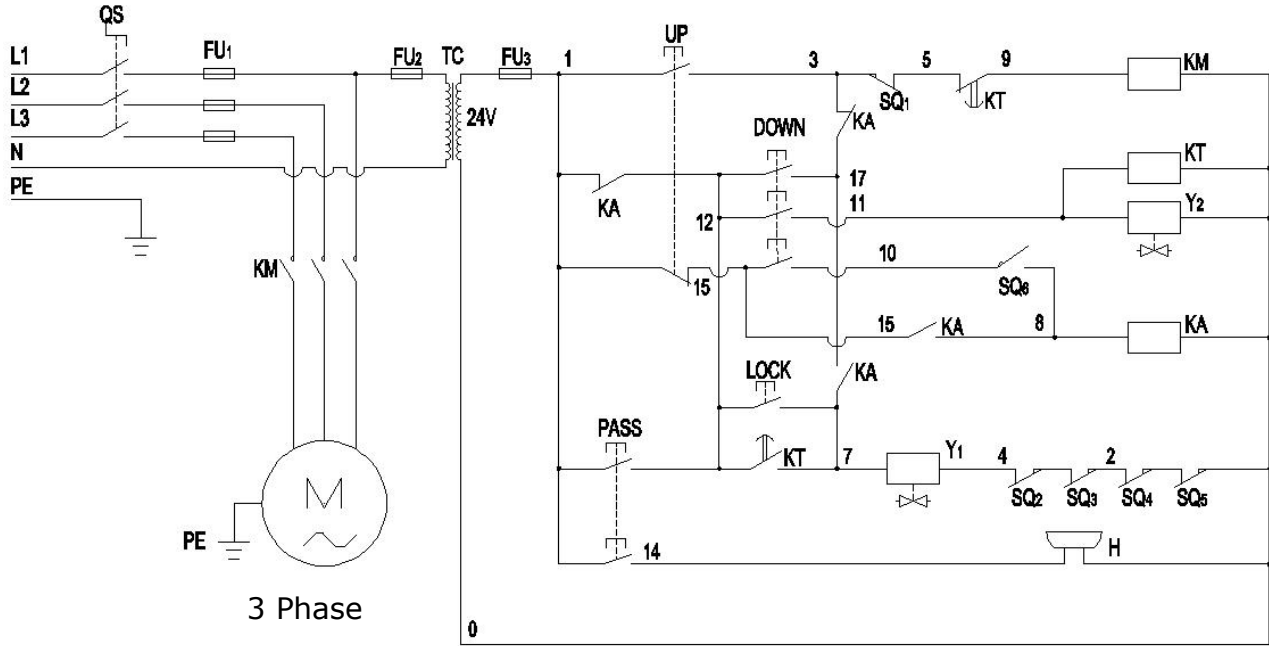

Fig. 46
5.3 380V Circuit diagram (See Fig.46).